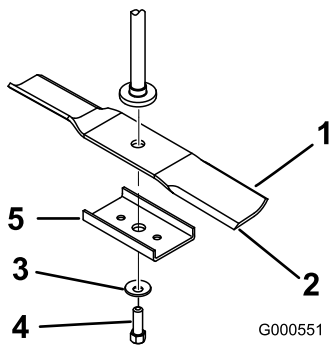
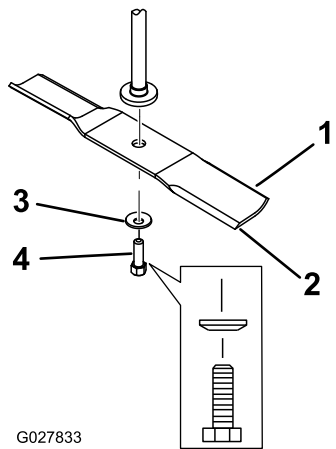

Figure 49
Figure 50
2. Remove the blade stiffener (32-inch decks only), blade bolt, the curved washer, and the blade from the spindle shaft (Figure 49 and Figure 50).
- Install the blade onto the spindle shaft (Figure 50).
- Install the blade stiffener (32-inch decks only), the curved washer (cupped side toward the blade), and the blade bolt (Figure 50).